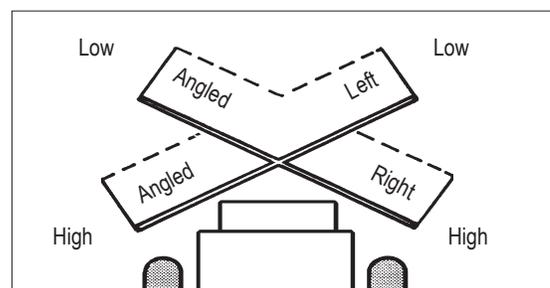

figure 2
- If the measurements resemble figure 2, retract the tilt cylinders.